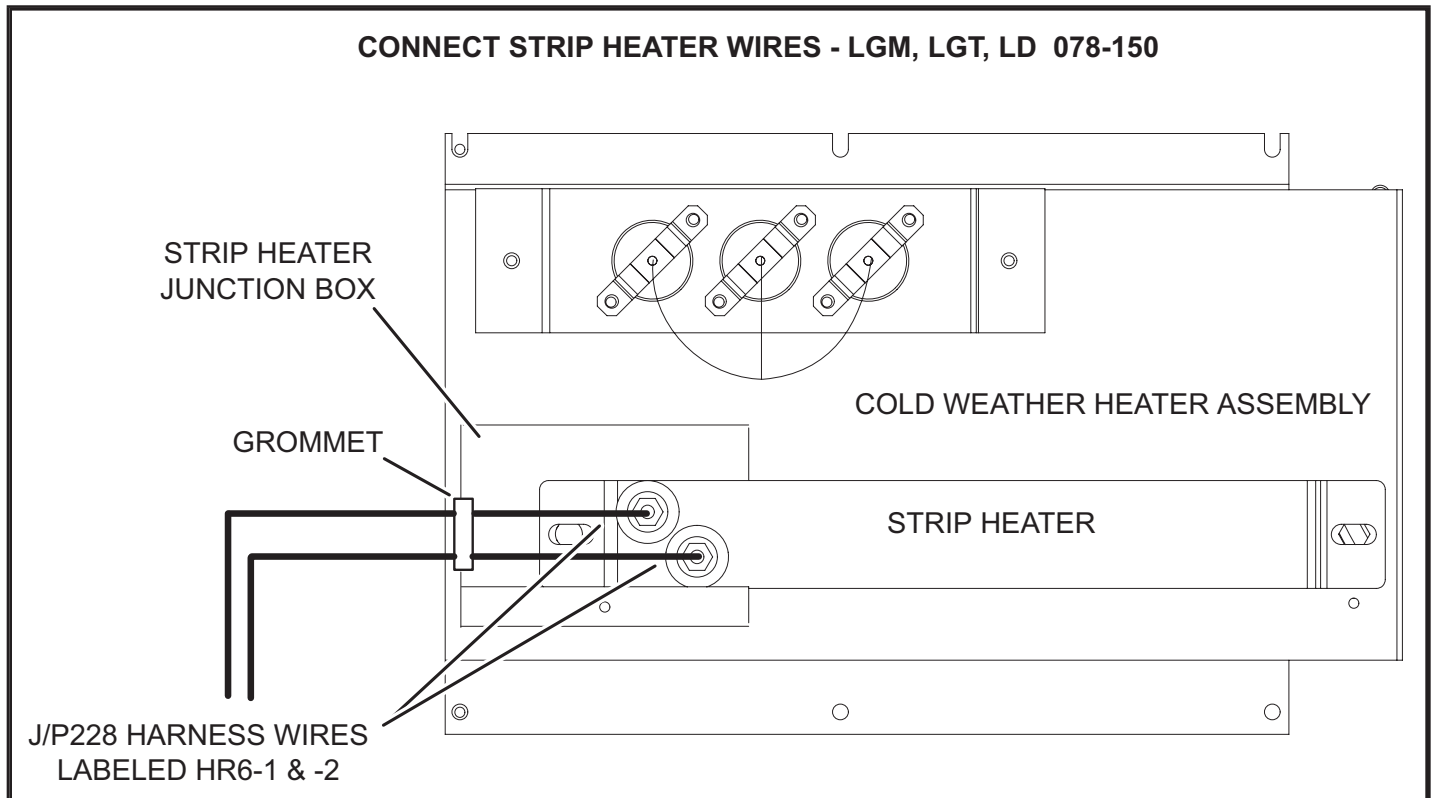

FIGURE 9
- 3 - Remove strip heater junction box cover. Route two power harness wires labeled HR6 through the junction box side grommet and connect to the strip heater terminals. See figure 9. Replace junction box cover.